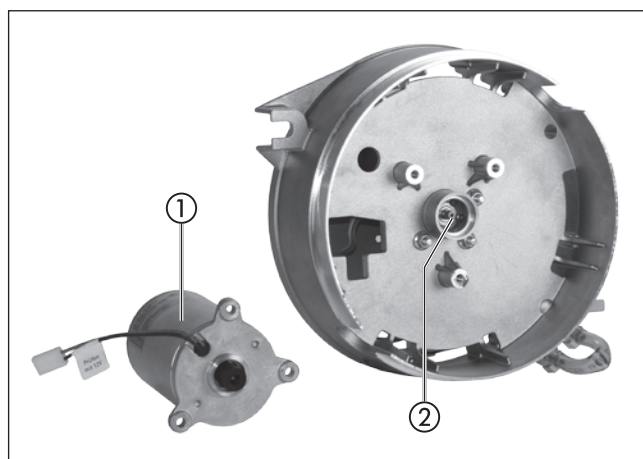

Figure 8
- Lay the cable harnesses as shown in Figure 8 and 9.